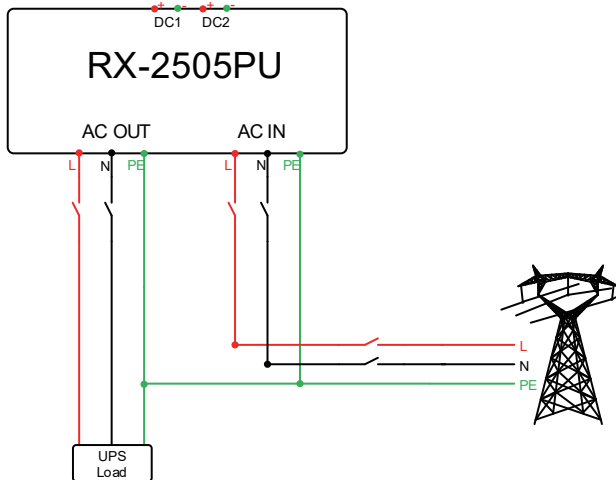
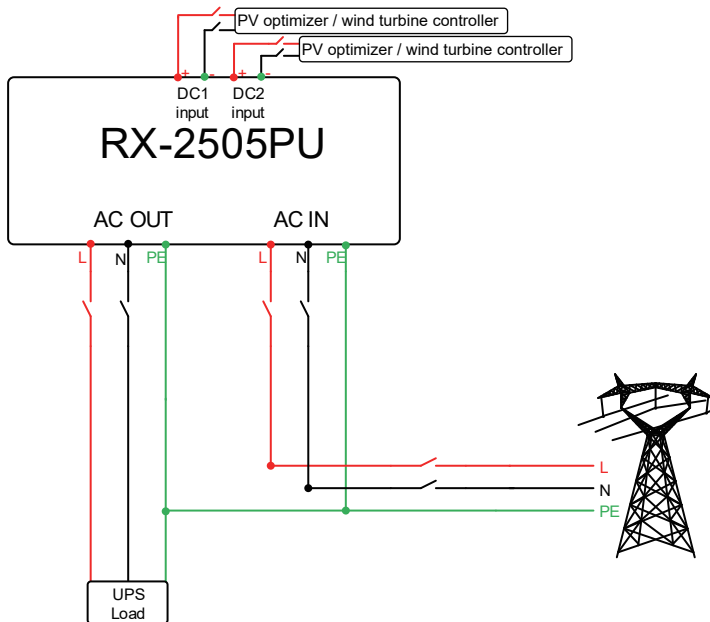

Figure 5-3 - 240V connection diagram
Figure 5-4 - 240V and DC connections
4. The UPS Load on-off switch in Figure 5-3 and Figure 5-4 can be installed by customers according to their own needs.